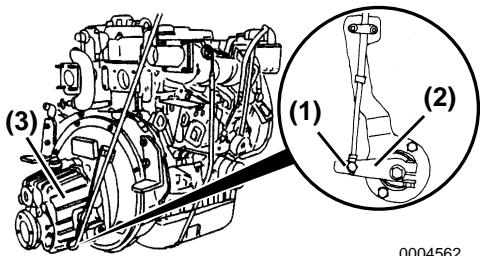
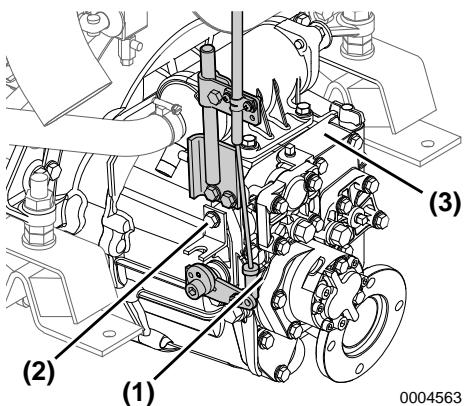

Figure 7
Figure 8
1. Ensure that the remote control lever (**Figure 7, (2)**) (**Figure 8, (2)**) moves to the correct position when the remote control handle is in NEUTRAL, FORWARD, and REVERSE positions. Use the NEUTRAL position as the standard for adjustment.
2. To adjust, loosen and retighten the cable fitting (**Figure 7, (1)**) (**Figure 8, (1)**).